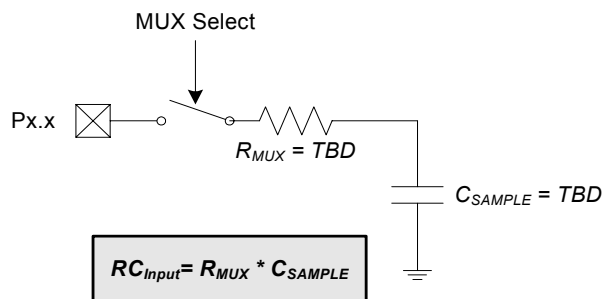

Figure 5.6. ADC0 Equivalent Input Circuits
Figure 5.6 shows the equivalent ADC0 input circuit. The required ADC0 settling time for a given settling accuracy (SA) may be approximated by Equation 5.1. When measuring the Temperature Sensor output or V_{DD} with respect to GND, R_{TOTAL} reduces to R_{MUX} . See Table 5.1 and Table 5.2 for ADC0 minimum settling time requirements.